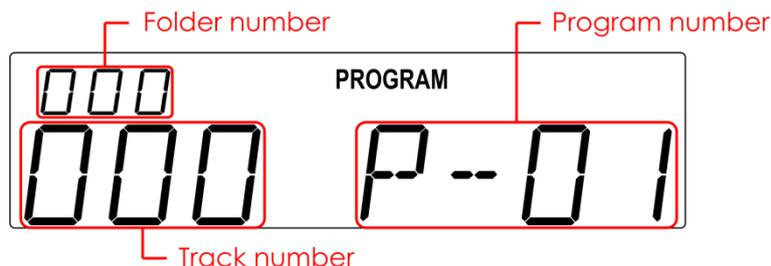

Fig. 10
- Stop playback and press the **Prog** (38) button, the player will enter the program mode. The display will look as shown in figure 10.